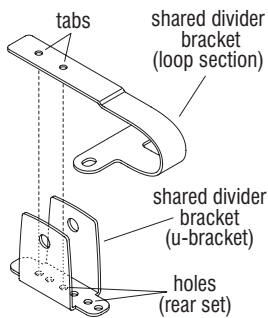

Figure 5
2. The first step in assembling privacy screens and dividers is to determine if the back-to-back dividers are to be configured as left-end, right-end, or shared. Shared dividers must first be assembled by joining the two pieces of the front bracket as illustrated (Figure 5). The tabs of the loop section fit into one of four positions, or sets of holes in the U-bracket section. As illustrated, rest the loop section into the second set of holes in the U-bracket section for this back-to-back application (Figure 5).